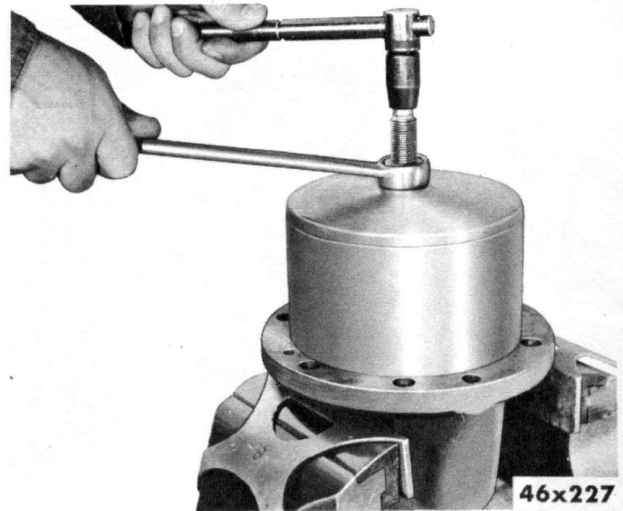

Fig. 117—Removing Pinion Bearing Cups from Cage, Tool DD-966
- (6) Press front bearing and pinion shaft oil seal from cage.
- (7) Remove the two bearing cups from pinion cage, as shown in Figure 117.